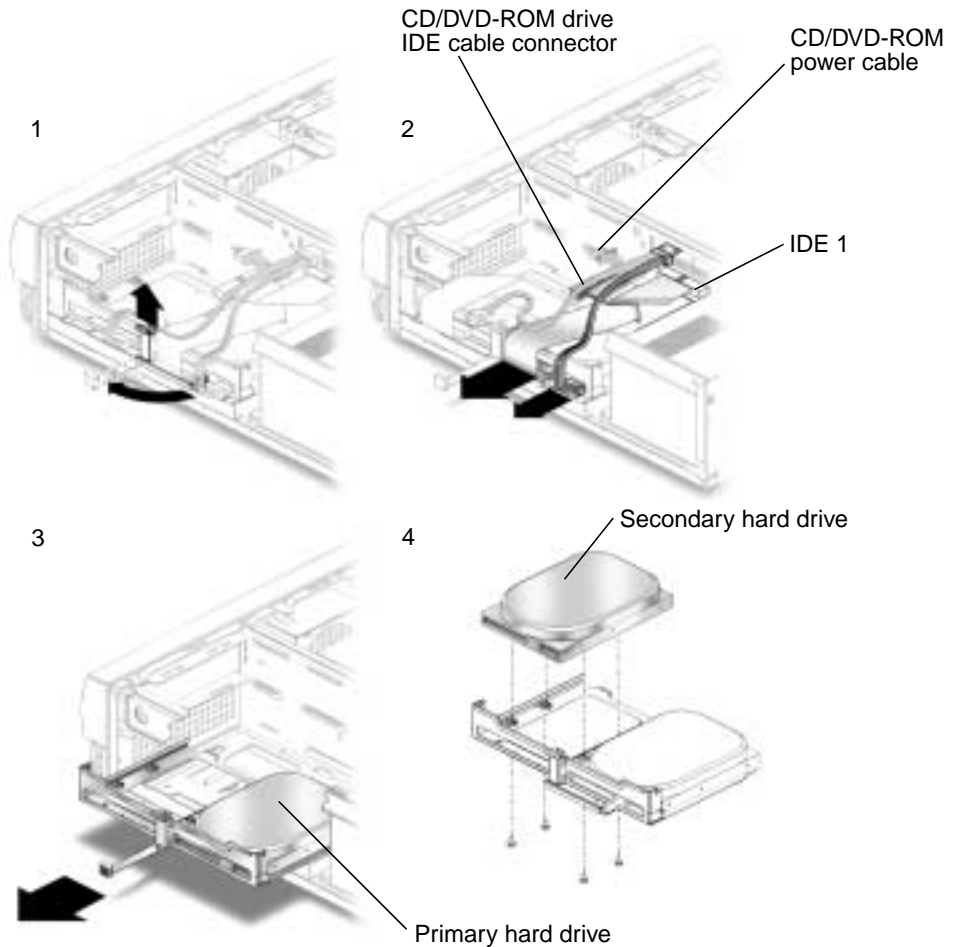

FIGURE 6 Installing a Secondary Hard Drive
The secondary hard drive option for the Sun Blade 100 system mounts next to the primary hard drive on the hard drive tray (see FIGURE 6). The secondary IDE cable assembly is used with the secondary hard drive. Use the following procedure to install the optional secondary hard drive.
2. Lift the spring-loaded latch upward to release the hard drive tray from the chassis (see FIGURE 6).
12. Verify that the CD-ROM or DVD-ROM is connected to both the power cable and the cable connector labeled CD/DVD (see FIGURE 6).